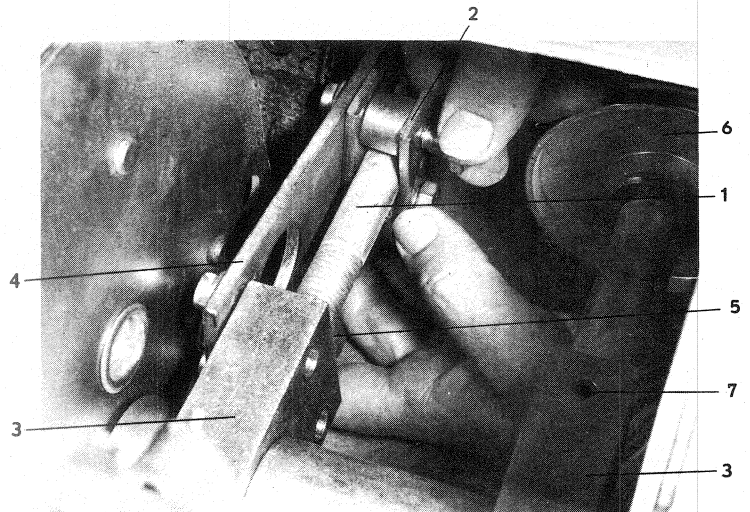
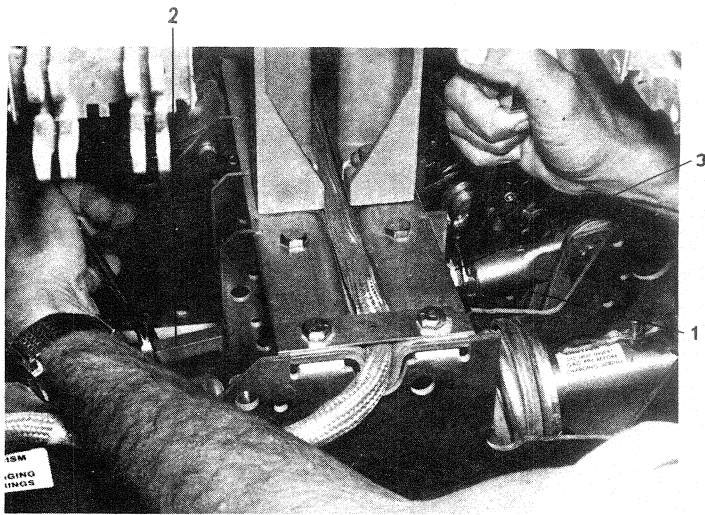

Fig. A10a Flywheel Brake
Fig. A10b Pull Rod
To remove the brake, remove the clamp, (2) Fig. A10a, that holds the brake assembly to the pullrod and then remove the two bolts that mount the brake to the flywheel block. Reinstall the new brake in the reverse order.
Charge and gag the closing spring and press the manual close push button. Remove the flywheel brake assembly (Reference paragraph A.5.20). The pull rod is a turn buckle arrangement with right hand threads on one end and left hand on the other. Loosen the jam nuts, (5) Fig. A10a and (3) Fig. A10b, on each end of the pull rod and remove the pull rod by unscrewing it. Remove the jam nuts and install them on the new pull rod. Install the new pull rod and screw both ends in simultaneously. Set the length of the pull rod initially to approximately 13¾ inch between the flywheel block, (3) Fig. A10a, and the coupling, (1) Fig. A10b, attached to the adjustable throw transfer crank. Adjust the pull rod length as described in paragraph 5.3.